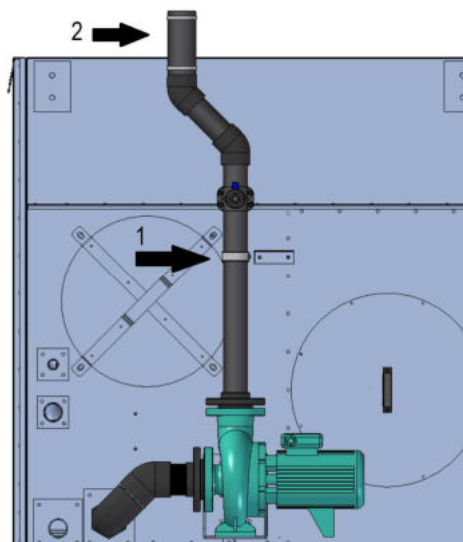

Fig.14
**Note:** the glueing of the pipe to the fittings must be carried out by experienced personnel, any leakage in the pipe section will not be attributable to W-tech. Then connect the pvc flange to the pump. Do not forget to interpose the seal between the pvc flanges and the pump before tightening the flanges. Finally, position the delivery pipe to the upper flange of the pump, remembering to put the gasket, fix it to the frame of the unit through the collar (1), supplied with the pipe, and join it to the pipe fixed to the upper section through the rubber pipe and the clamps (2). See fig. 14.